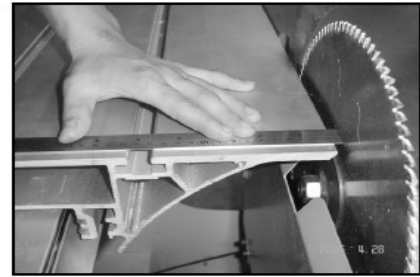

Fig. 67
4. move the sliding table all the way to one end, and using a precision ruler, measure the gap between the edge of the table and you mark on the blade. (Fig. 67)